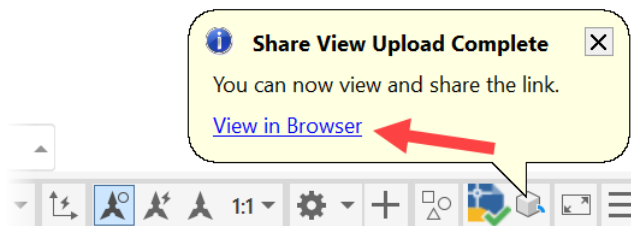

Figure 13.21: The prompt confirming background processing is complete
12. A prompt appears once the shared view has been processed, as shown in *Figure 13.21*. Click on the **View in Browser** link to open the shared view in the Autodesk Viewer in your default browser.